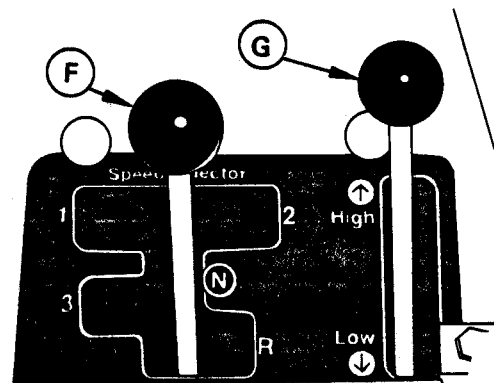

FIGURE 2
F SPEED SELECTOR LEVER — FIGURE 2
The Speed Selector Lever is used to select any of three forward gears or one reverse gear. The markings "1, 2, 3" and "R" on the floor plate indicate the locations of the gears. The slowest forward gear is indicated by "1", the secondary gear, "2" and the fastest gear, "3". The "R" indicates reverse. The Speed Selector Lever must be in the "NEUTRAL" position as shown in Figure 2 to start the engine. THIS IS A SAFETY FEATURE.
G HIGH-LOW SPEED RANGE SELECTOR — FIGURE 2
1. Depress Clutch Pedal (H) and hold the tractor in position by depressing the Brake pedal (I).
2. Place the Speed Selector Lever (F) in the "NEUTRAL" position as shown in Figure 2.